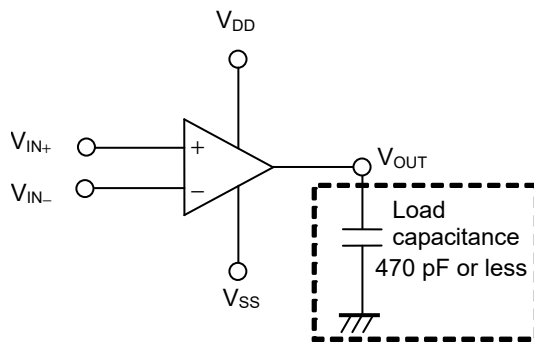
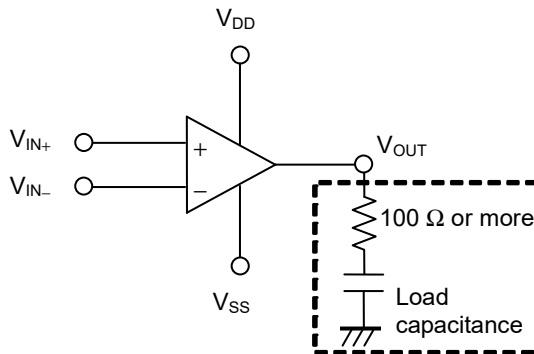
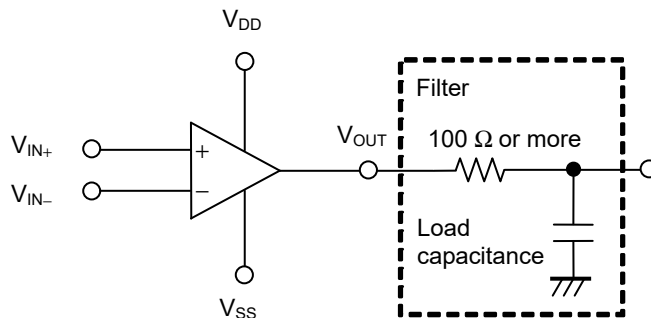

Figure 15
Figure 16
Figure 17
- This IC operates stably even directly connecting a load capacitance of 470 pF or less to the output pin, as shown in **Figure 15**. When connecting a load capacitance of 470 pF or more, connect a resistor of 100 Ω or more as shown in **Figure 16**. In case of connecting a filter for noise prevention, and connecting a load capacitance of 470 pF or more, also connect a resistor of 100 Ω or more as shown in **Figure 17**.